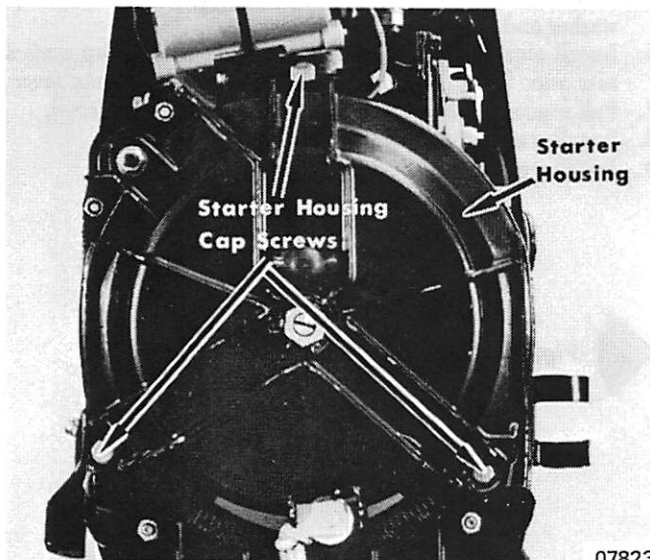

Figure 1. Removing Rewind Starter Housing
2. Remove rewind starter by removing 3 starter housing cap screws and nuts. (Figure 1) If electric, remove 2 starter nuts.